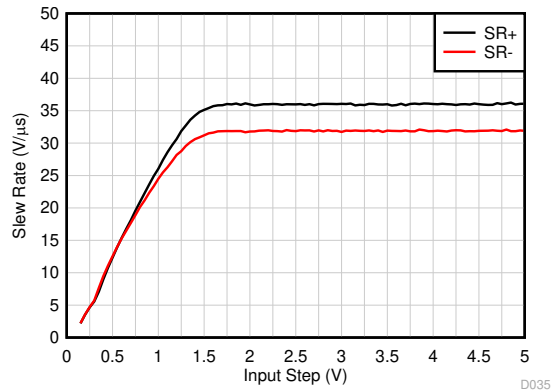

Figure 5-15. Slew Rate vs Input Step Voltage
(1) Specified by characterization only.
(2) Disable time (t_{OFF}) and enable time (t_{ON}) are defined as the time interval between the 50% point of the signal applied to the SHDN pin and the point at which the output voltage reaches 10% (disable) or 90% (enable) of its final value.
(3) See Figure 5-15 for more information.